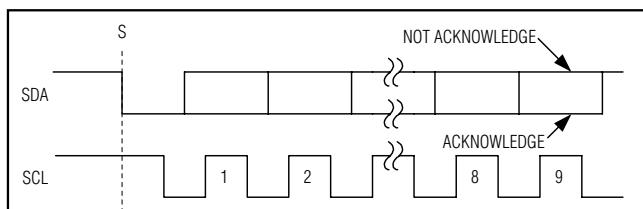

Figure 6. Acknowledge Bits
Data transfers are acknowledged with an acknowledge bit (A) or a not-acknowledge bit (\bar{A}). Both the master and the MAX1236–MAX1239 (slave) generate acknowledge bits. To generate an acknowledge, the receiving device must pull SDA low before the rising edge of the acknowledge-related clock pulse (ninth pulse) and keep it low during the high period of the clock pulse (Figure 6). To generate a not-acknowledge, the receiver allows SDA to be pulled high before the rising edge of the acknowledge-related clock pulse and leaves SDA high during the high period of the clock pulse. Monitoring the acknowledge bits allows for detection of unsuccessful data transfers. An unsuccessful data transfer happens if a receiving device is busy or if a system fault has occurred. In the event of an unsuccessful data transfer, the bus master should reattempt communication at a later time.